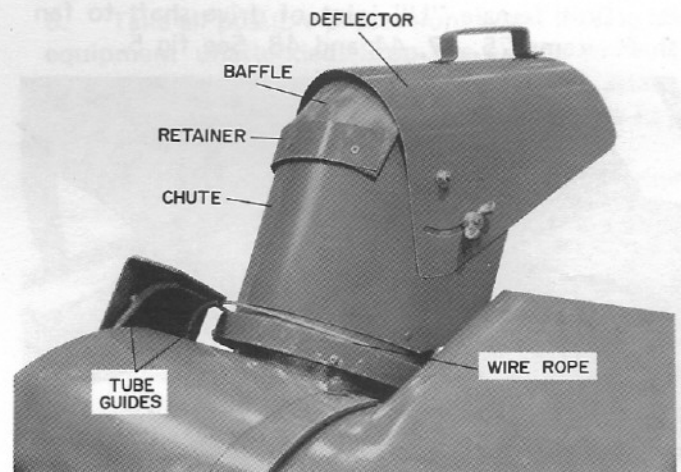

fig 4
5. Put a flat washer, lockwasher, and wingnut on the adjusting stud, items 15, 96 and 97. Make the wingnut finger tight. See fig 4.
6. Crank fan housing to maximum left position; discharge chute will rest on frame. Chute/deflector assembly should point to the exact left. If adjustments need to be made, loosen cable hold-down bolt, item 105, to make adjustment. Retighten, making sure retaining clamp, item 88, under bolt is in place.